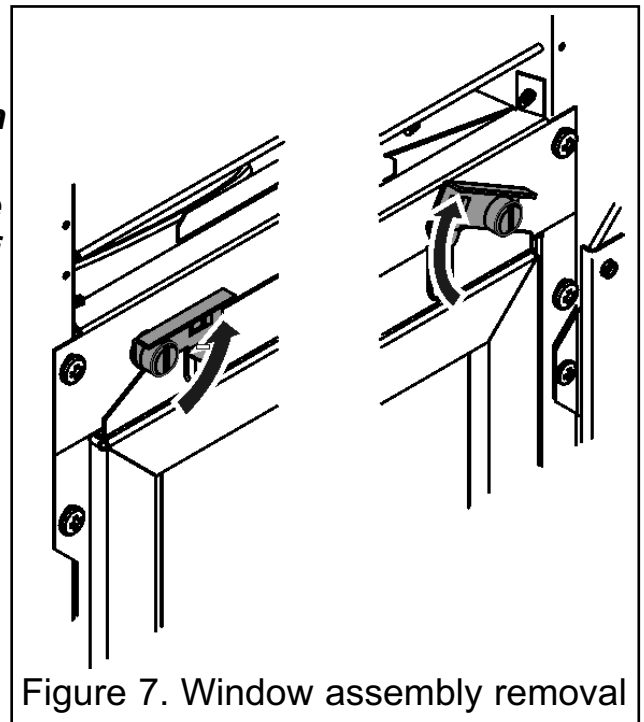
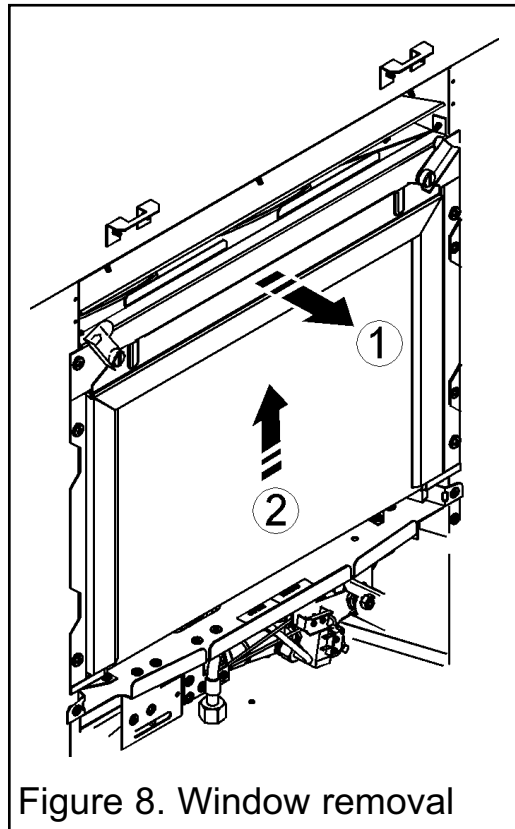

Figure 7. Window assembly removal
Figure 8. Window removal
1. The window assembly is held in place with two clamping brackets that rotate around a central pivot point. Push the brackets up and clear of the window assembly (See figure 7). Gently pull the top of the window frame forward and lift the window assembly clear of its support channels (See figure 8). Place the window assembly in a safe place away from the work area.